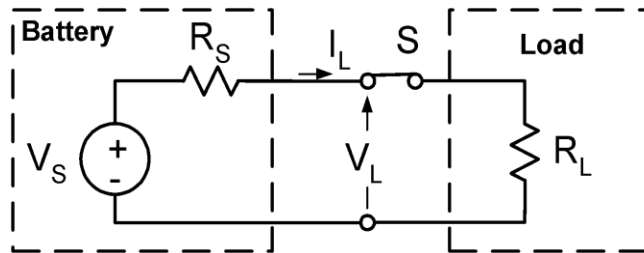

Figure 2.4
B. For the circuit drawn in Figure 2.4, answer the following questions given $V_S = 1.5\text{V}$, $I_L = 15\text{mA}$ and $V_L = 1.425\text{V}$.
C. Model the circuit in Figure 2.4 in SPICE using the value of R_S and R_L calculated above in B.1 and B.2 and the value given for V_S . Do your SPICE results match your calculations? If not, you should recheck your calculations and your simulations. Print a screenshot of your SPICE schematic with the results of your operating point simulation shown and hand it in as part of your pre-lab. See Appendix I in the lab manual for a brief introduction to SPICE simulation using LTspice. **Note:** You do not need to simulate the switch in SPICE. Just connect a wire between the two resistors.